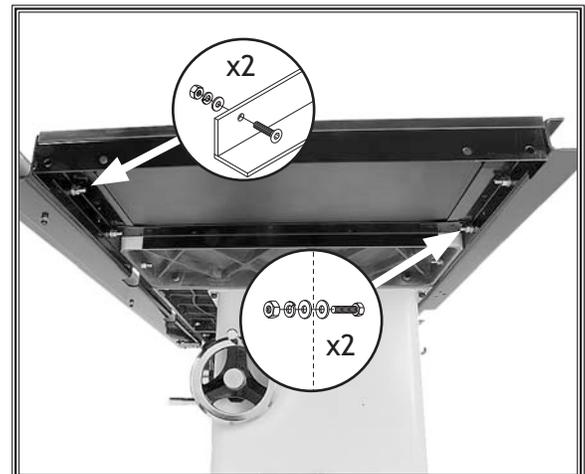

Figure 19. Extension table installed.
- Install the extension table between the front and rear rails with (2) M8-1.25 x 35 hex bolts, (2) M8-1.25 x 35 flat head screws, (8) 8mm flat washers, (4) 8mm lock washers, and (4) M8-1.25 hex nuts, as shown in **Figure 19**. Finger tighten the fasteners for now.